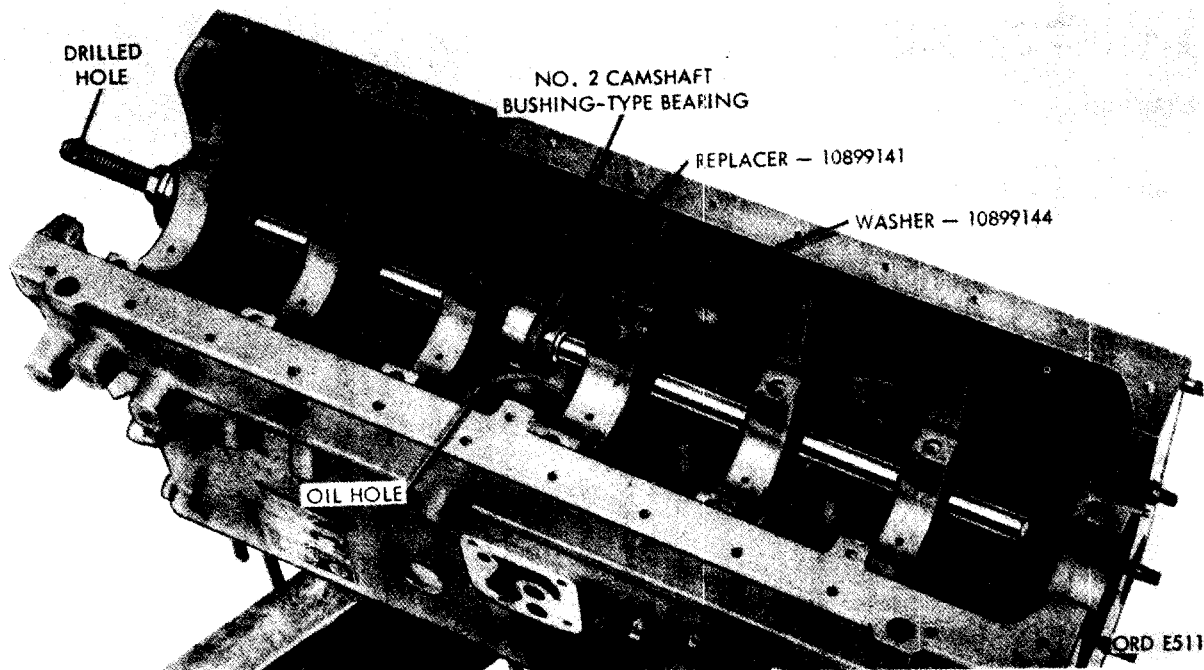

FIGURE 329. INSTALLING NO. 2 CAMSHAFT BUSHING-TYPE BEARING.
e. Installation of the new camshaft bearing is accomplished in a similar manner; i.e., from the rear side of the bore. Select replacer - 10899141 (fig. 329). Position new camshaft bearing over replacer. Hold replacer and bearing in position at the rear of the No. 2 bearing bore, and insert shaft, "U" shaped washer,
yoke assembly, flat washer, and plain nut as outlined in c. above. Tighten plain nut until all parts are seated and aligned. Apply a light coating of engine oil OE-10 (MIL-0-2104) on outside diameter of bearing. Oil hole in bearing must be aligned with grease pencil mark made in b. above. Slowly tighten plain nut until bearing is pulled into bore and flush with front edge. Use a suitable pin through hole in the threaded end of the shaft to keep it from turning (fig. 329).